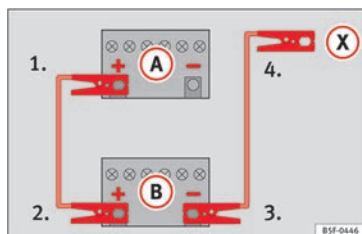

Fig. 79 Diagram of connections for vehicles without Start Stop system
2. Connect one end of the **red** jump lead to the positive (+) terminal of the vehicle with the flat battery **A** » **Fig. 79**.
- 4a. *For vehicles without Start-Stop system:* connect one end of the **black** jump lead to the negative terminal (-) of the vehicle providing the current **B** » **Fig. 79**.